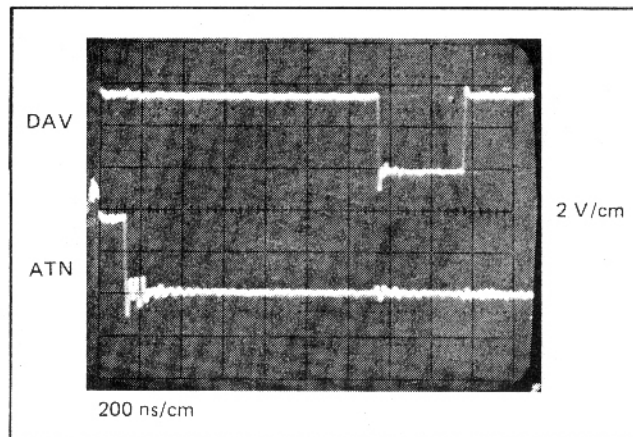

Figure 4-4. DAV Delay to ATN.
j. With the Oscilloscope sweep speed set to 200 nano-seconds per centimeter, the display should be similar to that shown in Figure 4-4. The time between the negative going edge of the ATN signal and the negative going edge of the DAV signal should be greater than 1 microsecond.